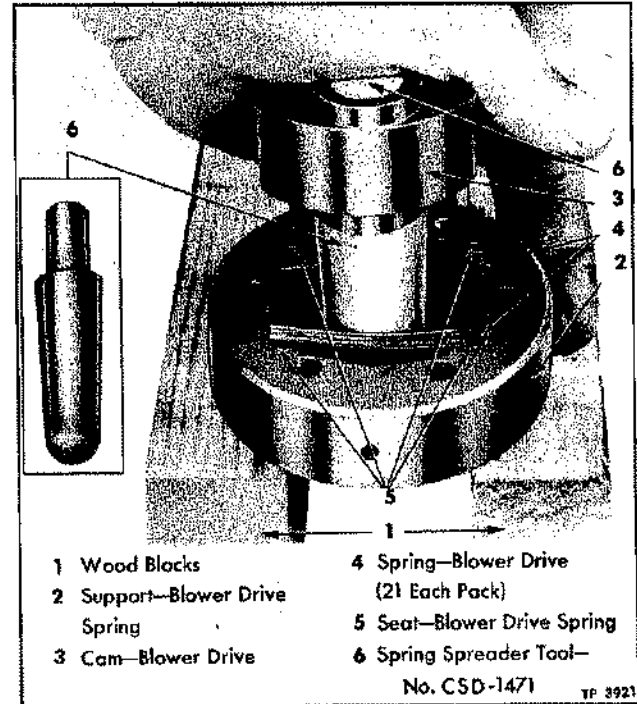
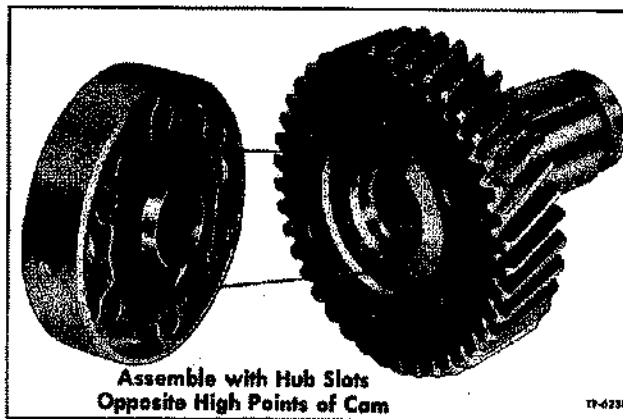

Figure 56—Inserting Blower Drive Cam in Shim Pack with Spreader Tool
Figure 57—Reassemble Flexible Coupling Gear and Hub as Shown
5. Place drive spring support (16) on two blocks of wood, as shown in figure 56.
6. Grease springs (17) to hold the leaves together. Slide two spring packs consisting of 21 springs each into spring support together with a drive spring seat (18) at both ends of each spring pack. Locate spring seats (18) so rounded surface of seats will set in corresponding curve in spring support.
7. Install blower drive cam (17) over end of spreader tool; then insert tool between spring packs until lower edge of cam rests on blocks beneath spring support.
8. The outer end of flexible drive coupling cam is counterbored for about $\frac{1}{4}$ " on the inside diameter. Counterbore must be away from face of gear. Also slots in hub must be opposite high points of cam (fig. 57) to provide proper lubrication at cam.
9. Place retainer (20) against outer face of coupling, with flange at center of shield pointing away from coupling. Lock in place with lock washers and cap screws.